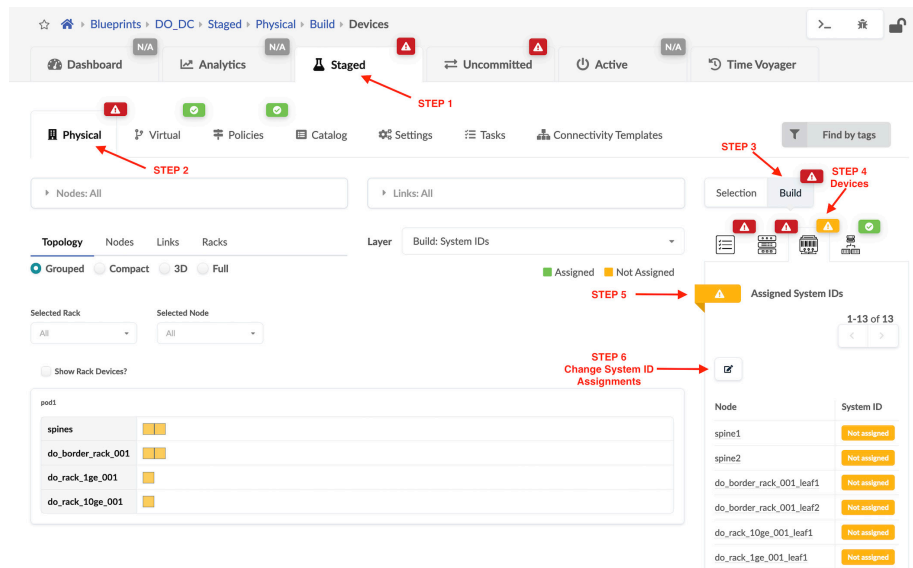

Figure 4.8 Assigning System IDs to Fabric Devices
Step 1. Click on the Staged tab. See Figure 4.8.